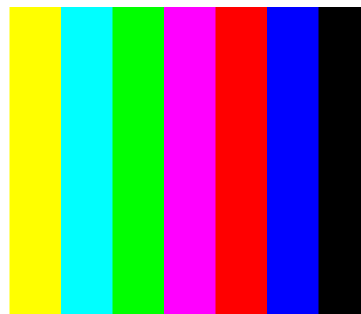

Figure 12. Example of Color Bars Test Pattern
15. As noted in Table 4 and Table 5, there is no user programmability associated the color bars test pattern. This pattern is made up of eight vertical color bars: white, yellow, cyan, green, magenta, red, blue, and black. For this pattern, the system automatically determines the width for each color bar based on the size of the display (DMD). An example of the color bars pattern is shown in Figure 12.